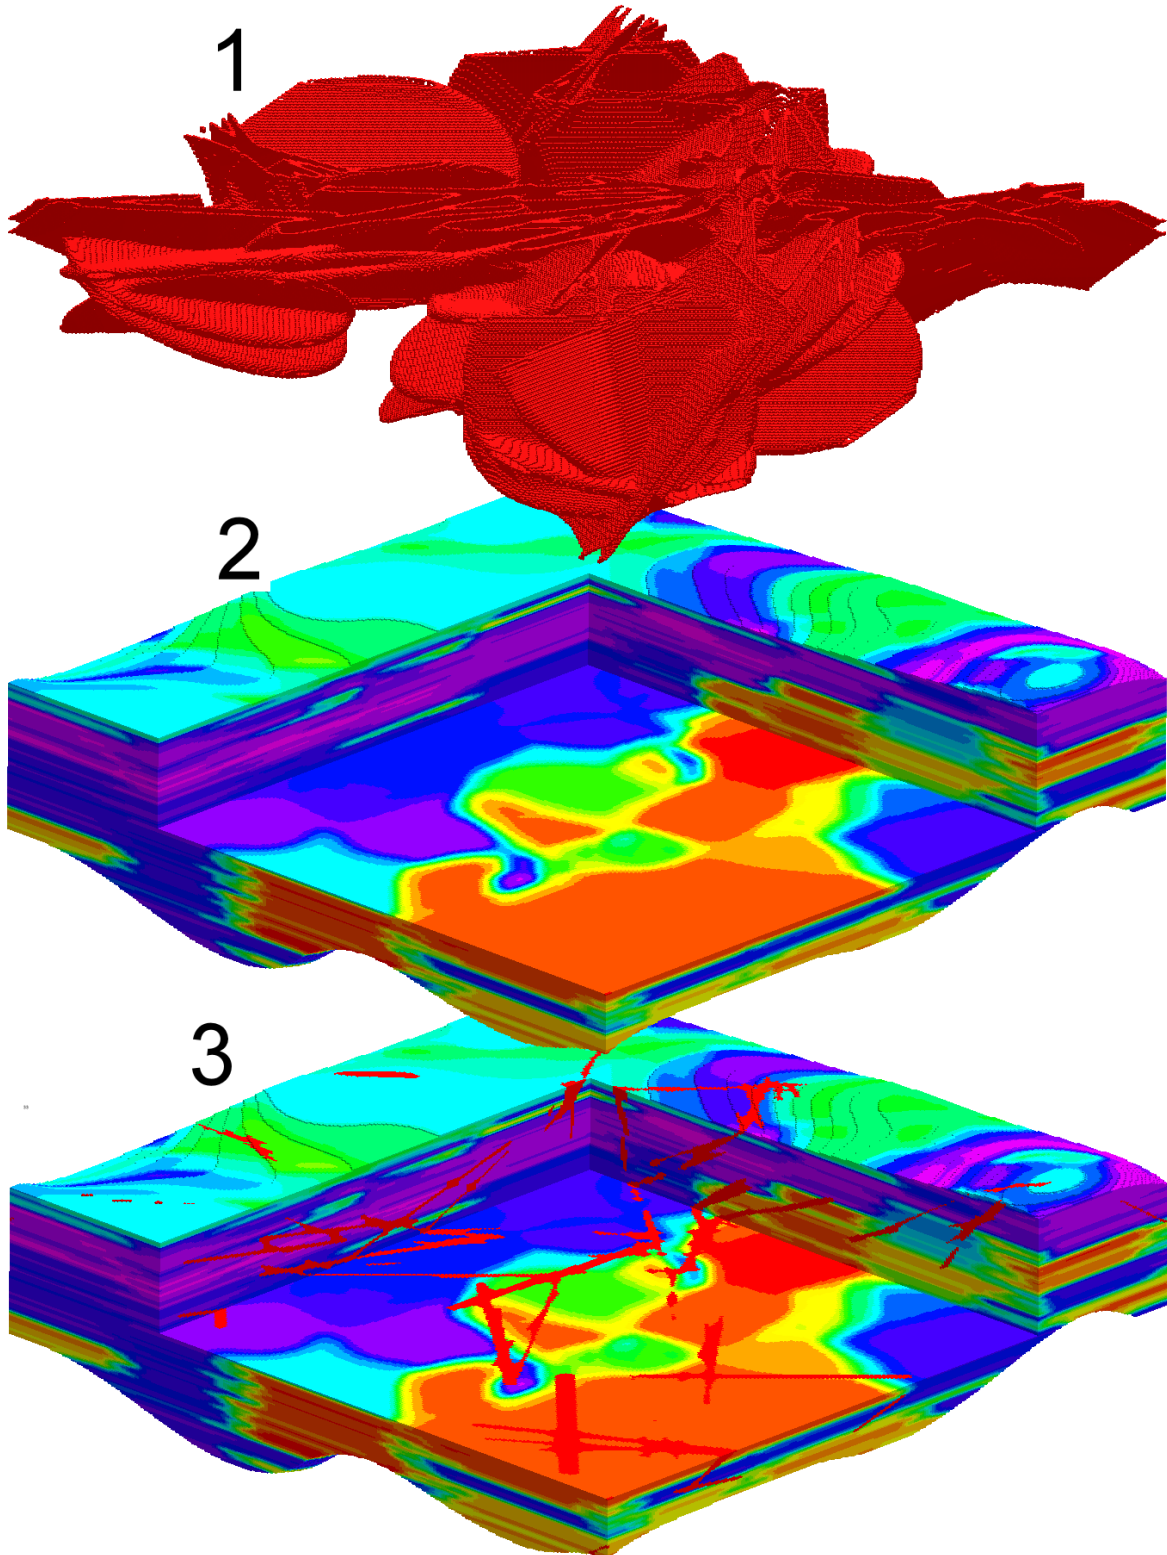

Figure 20
- The *Merge Fractures with Existing Model* and *Merge Fracture Intersections with Existing Model* options can be used to add hydraulic conduits or hydraulic barriers to existing hydraulic conductivity and geothermal models. As shown within Figure 20, Model #1 depicts a distance-to-closest fracture model, Model #2 depicts a hydraulic conductivity model, and Model #3 depicts the hydraulic conductivity model after applying the *Merge Fracture Intersections* program. Notice how the fractures are providing flow pathways. Keep in mind that the opposite effect can be applied to fractures that may act as hydraulic barriers (e.g., clay-filled gouge zones).